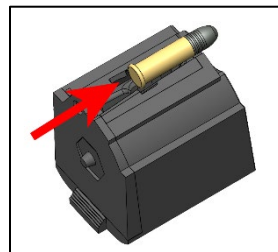

Figure 23
- Unload the magazine by holding it with the bullet end of the cartridge pointing away from you and pressing each cartridge forward and out of the magazine – Figure 23.